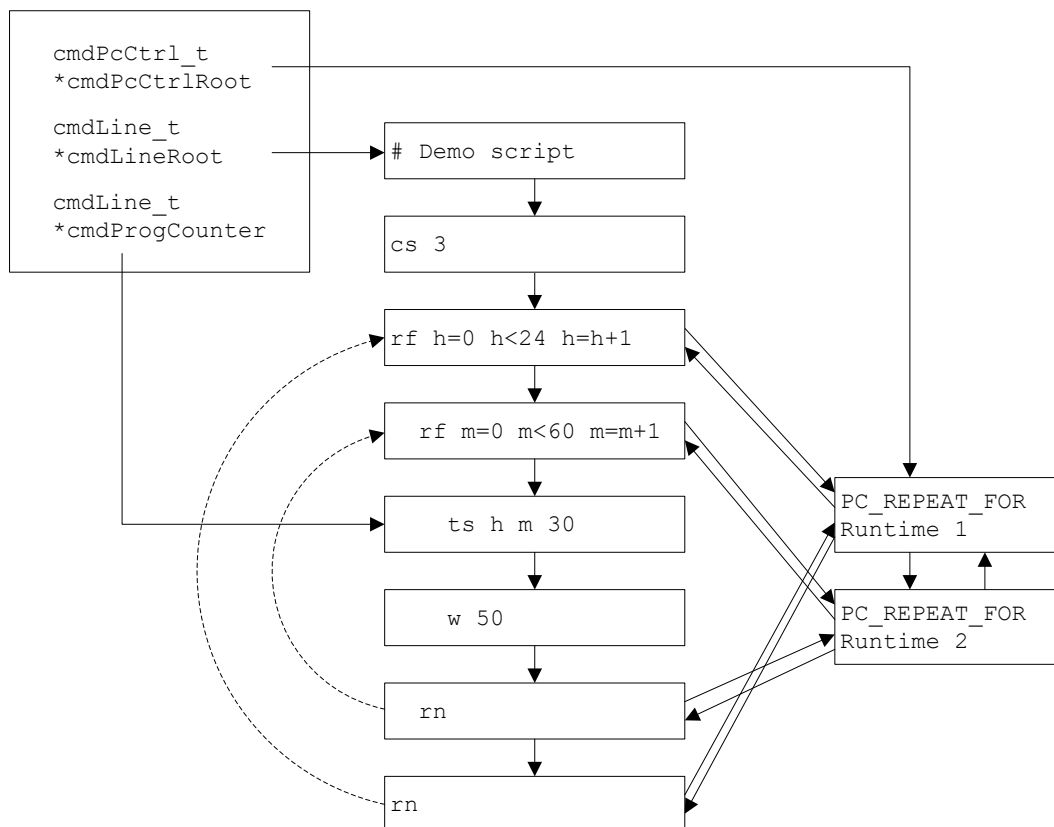

Figure 10: Creating and executing an mchron command list
Using the demo script of the first method as an example, upon entering the 'e' (execute) command the following will take place as depicted in figure 10 below.
- In `doExecute()` function `cmdListFileLoad()` is called to load the file contents into linked list structures as depicted in figure 10 above. Part of loading the file is matching each line with its associated command dictionary entry. Also, the integrity of the command list is checked by matching each 'rf' command with an 'rn' command. When an unknown command is encountered or repeat commands cannot be matched, file loading will abort.